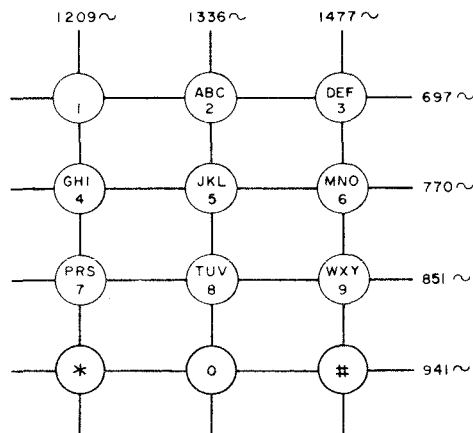

Fig. 3 — Dial Frequencies
1.06 Each pushbutton operates a different pair of frequency contacts which closes a path for 2 of the 7 output frequencies of the dial (Fig. 3). All pushbuttons operate the common switch which reduces side tone to the receiver, opens the transmitter path, applies bias voltage to the transistorized oscillator, and breaks the DC path to the tank coils.